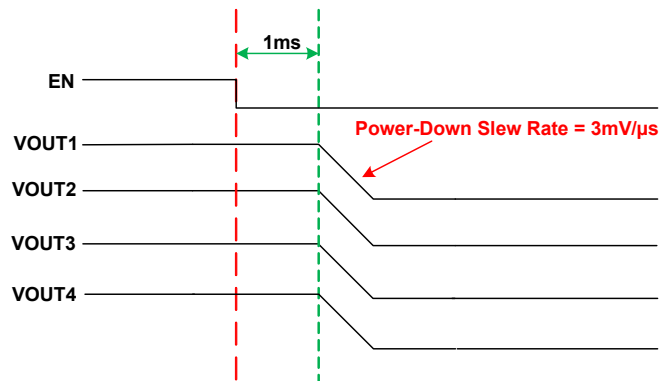

Figure 34. Auto Chip Power-Down Example
Figure 34 provides an example of power-down configurability. The master chip enable pin (EN) transitions from logic 1 to 0. In the Figure 34 example, BUCK1_SHUTDN_DLY is set for 1ms, BUCK2_SHUTDN_DLY is set for 1ms, BUCK3_SHUTDN_DLY is set for 1ms, and BUCK4_SHUTDN_DLY is set for 1ms.